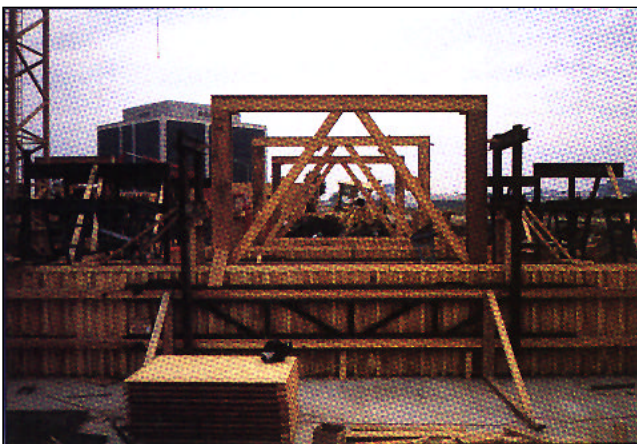

Figure 2. High-capacity yokes allow greater spacing between yokes and greater clearances between the yoke crossbar and the top of the slipform.
**High-capacity yokes.** Though hydraulic-jack technology and lifting capacities (typically 3, 6, or 22 tons) have changed little in the past 20 years, yokes have become larger to ease several aspects of the construction process (Figure 2). Larger, high-capacity yokes allow greater spacing between yokes for placing blockouts and inserts in the structure. Typical spacings between high-capacity yokes are now as much as 21 feet, compared with past spacings of about 7 feet. Fewer yokes also minimize interference in placing rebar, allowing workers on some projects to place preassembled rebar cages into the slipform. Using greater spacing between walers, however, requires support-